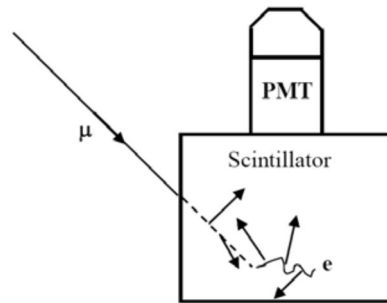

Figure 1
- Detector is composed by scintillator and photomultiplier tube (PMT). Scintillator is used to slow down the muons ejecting into, stop them for decaying. While muons decaying, photons will be emitted during the process and hit into PMT, passing the signal to indicate how many muons decaying and decay time. Figure 1 shows the scale of detector.